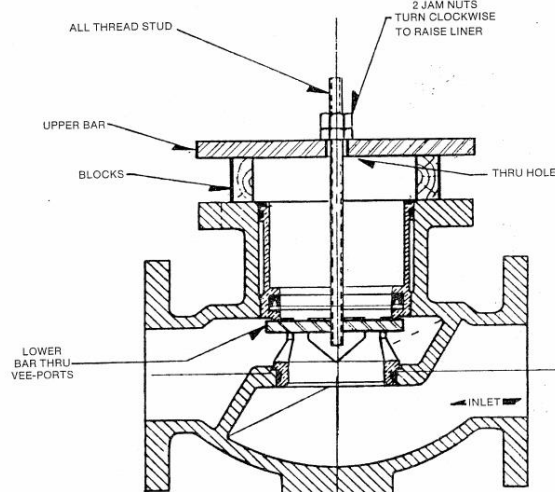

Figure 5
2. Remove the vent tube gland (23), packing (24) and unscrew the vent tube (22). **DO NOT DAMAGE THE VENT TUBE SEALING SURFACE.**
3. Reach inside the liner (3) through the V-ports and pull up while slightly rotating. In the unlikely event the liner cannot be extracted from the valve body in this manner, follow steps 3a through 3h. Otherwise, proceed to step 4.
- a. Refer to Figure 5.